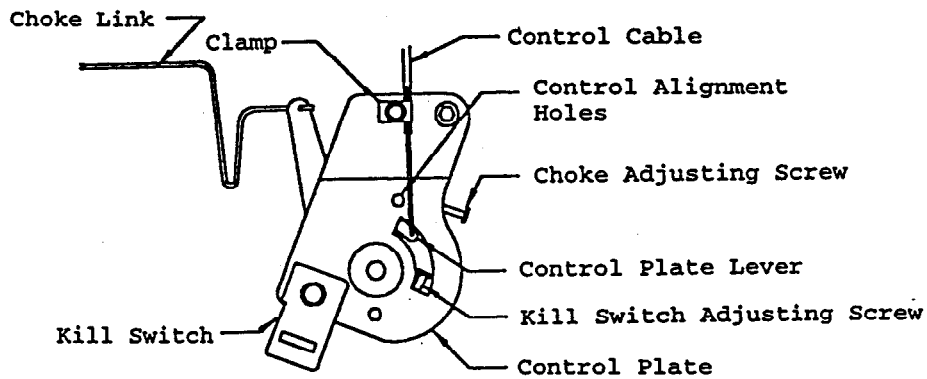

FIG 3
- c) Loosen clamp on engine control plate. (See Figures 3 and 4). Attach inner wire of the throttle cable to the control plate lever and position cable under clamp, **do not** tighten clamp.